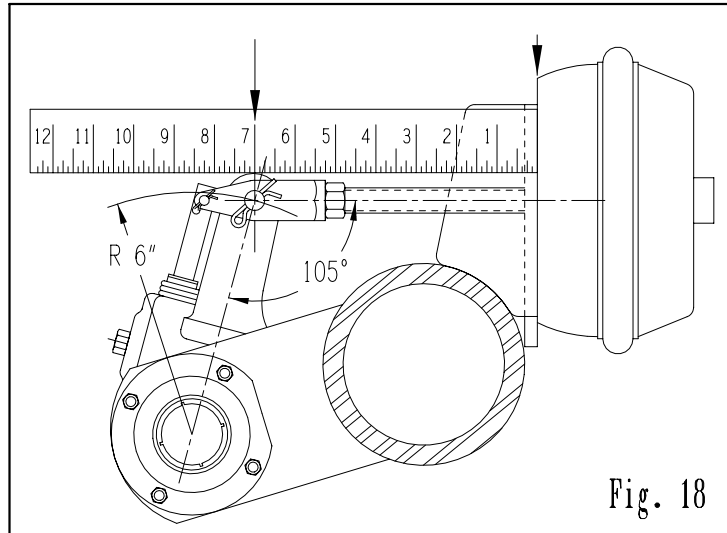

Fig. 18
1. Measure the distance from the bottom of the air chamber to the center of the clevis pin on all wheels. **See Fig. 18.**